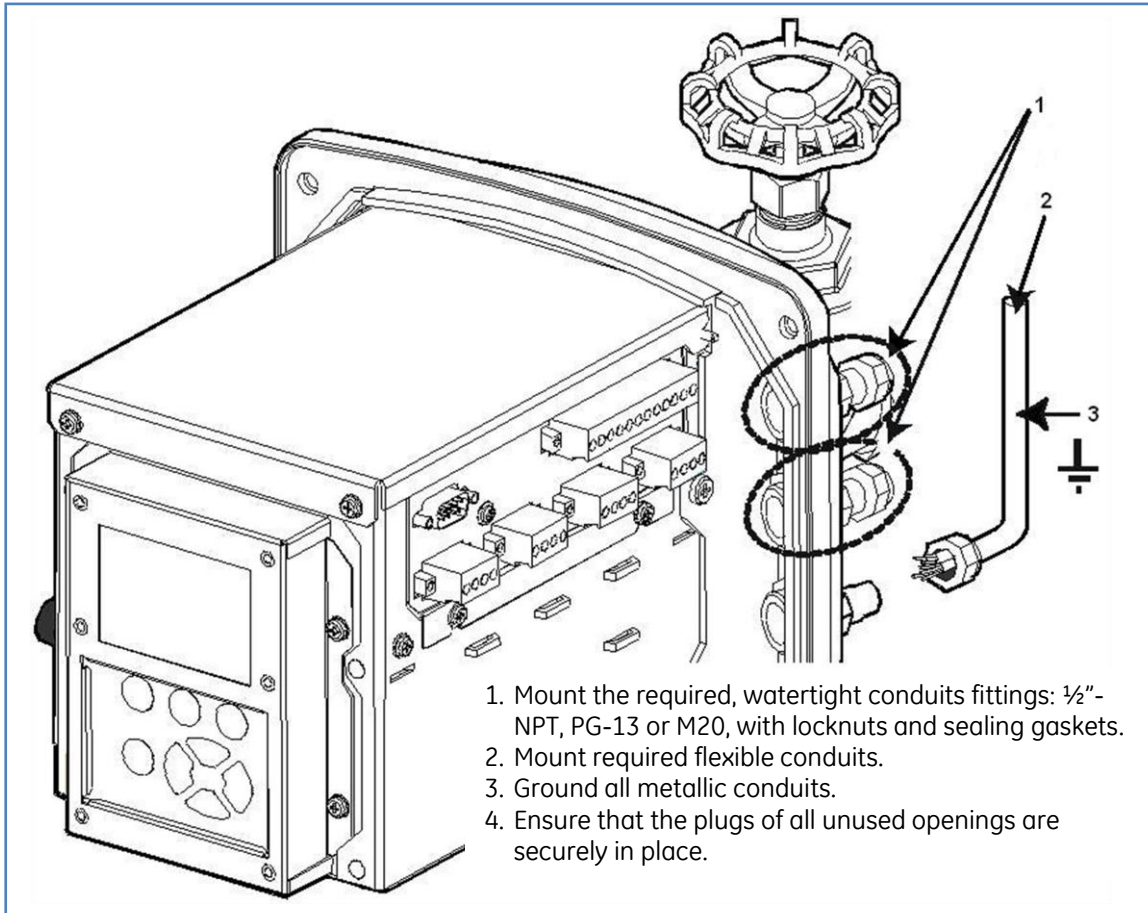

Figure 5-12: Installing Cable Conduits
3. Remove the cap from the desired conduit fittings. Install the necessary watertight conduit fittings. See Figure 5-12.